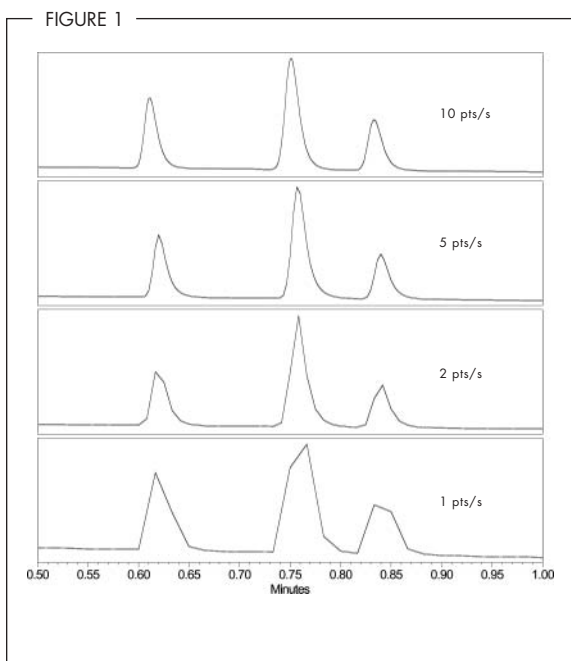

Figure 1: Effect of decreasing the sampling rate
Figure 1 shows the same one minute gradient separation performed at different sampling rates. At sampling rates below 5 pts/s, there is a visible effect on peak shape. Table 1 lists the reproducibility of the peak area and retention times for 10 injections, along with the points across the peaks at the different sampling rates. The reproducibility of the peak area is above 0.5 % RSD (Alliance® system specification for injection precision) at sampling rates below 5 pts/s. In addition, when working with peaks which are only 3 seconds wide, the number of points across the peak fall below the minimum number needed for reproducible quantitation (15) at sampling rates below 5 pts/s.